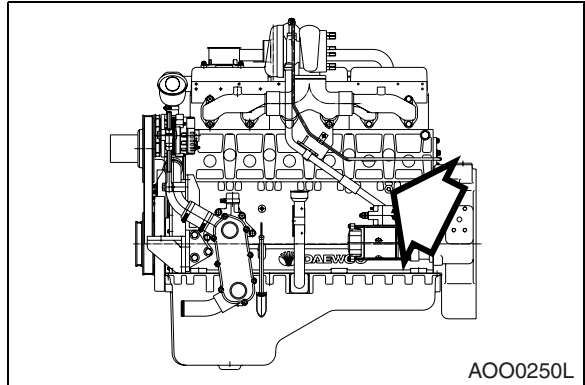

Figure 89 (S/N 3001 thru 4000)
3. Remove coolant drain plug (Figure 89) from engine.